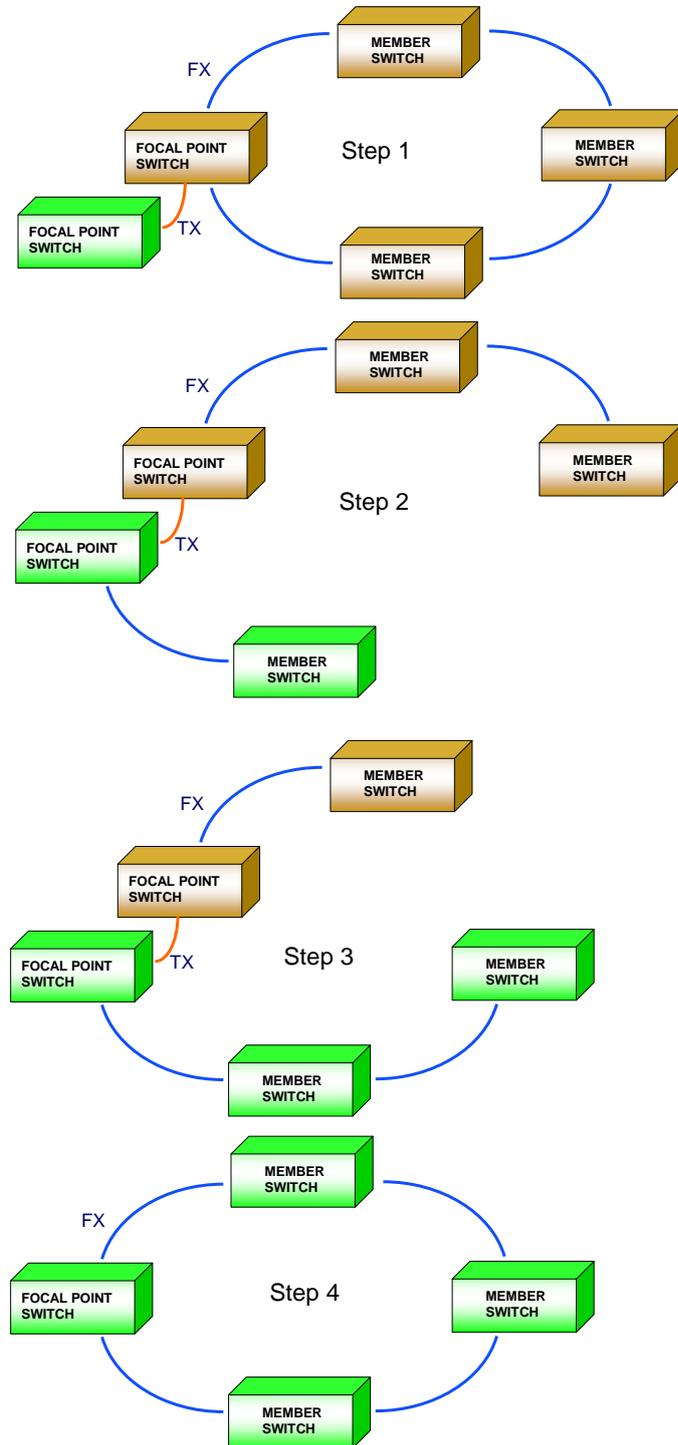

Figure 18, Major software version upgrade
Figure 18 shows how to upgrade switches in a FRNT 0 ring with fiber trunk ports from version 2.24 to version 4.06. This upgrade principle is based on keeping the old FRNT 0 ring running the old software (switches in orange) and build a new FRNT 0 ring with switches running the new software (switches in green). The two rings are connected via the two focal points through a copper drop link (TX). One extra R/T200 switch is required in order to perform this upgrade procedure.